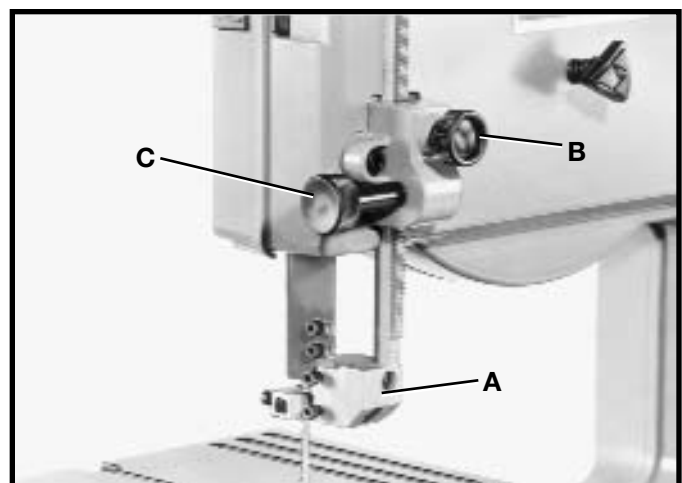

Fig. 21
The upper blade guide assembly (A) Fig. 21, should always be no more than 1/8" above or as close as possible to the top surface of the workpiece being cut. Loosen knob (B) Fig. 21, rotate knob (C) and position the guide assembly (A) to the desired position. Then tighten knob (B).